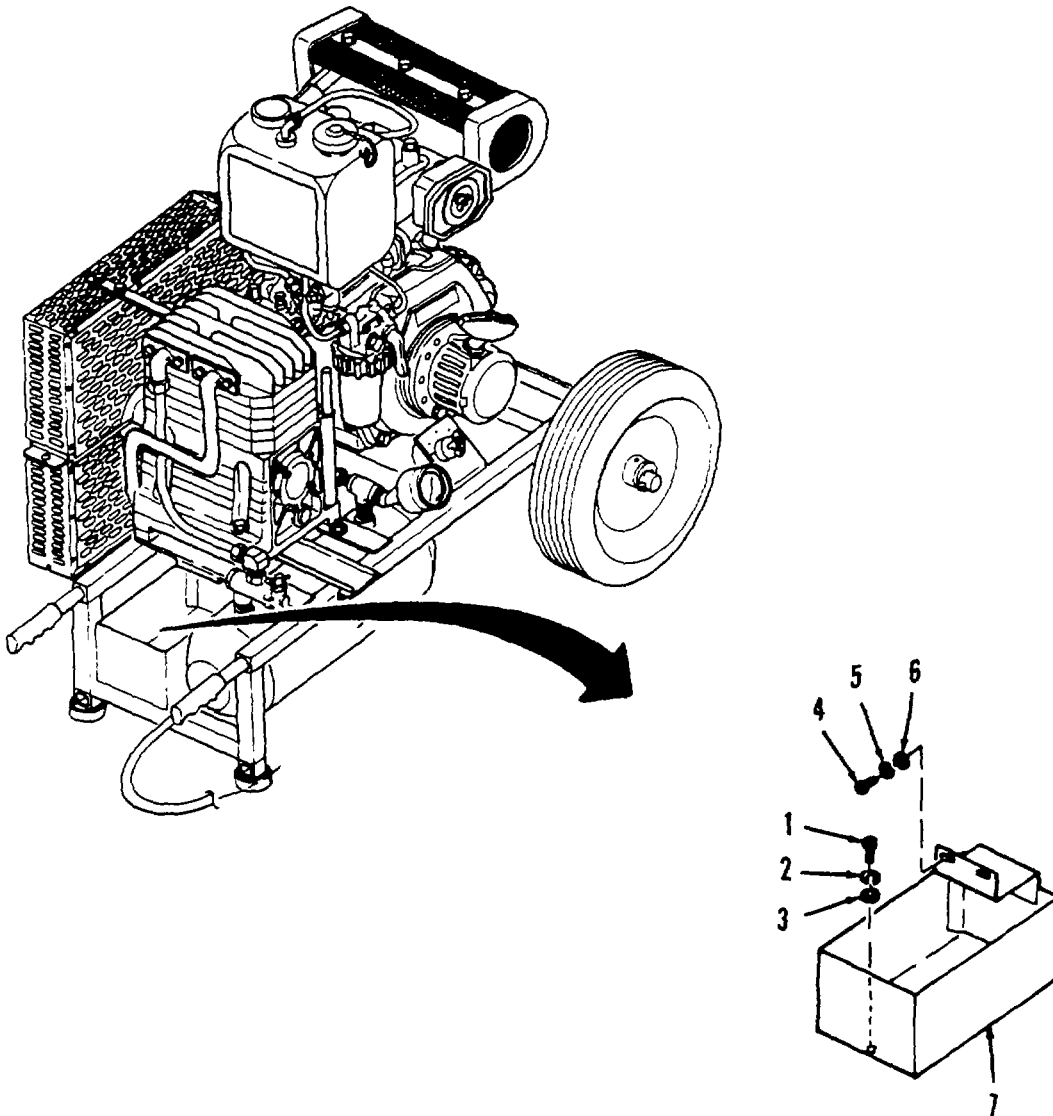

Figure 4-14. Tool Box Replacement.
a. Removal. (Refer to Figure 4-14).
- (1) Remove screw (1), lock washer (2), and flat washer (3).
- (2) Remove two screws (4), two lock washers (5), and two flat washers (6).
- (3) Remove tool box (7) from unit.